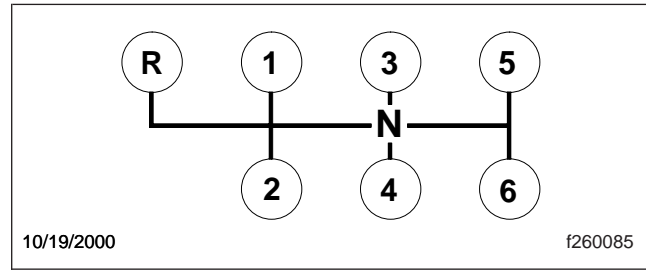

Fig. 5.2, Shift Pattern, FS-5306A and FS-6306A
Fuller FS-5306A and FS-6306A transmissions have six forward speeds and one Reverse (R) speed. See Fig. 5.2 for the shift pattern.